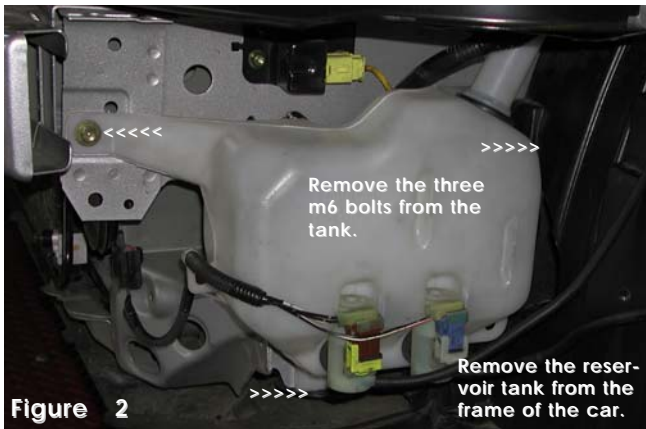

Figure 2
3. **Removing the windshield washer reservoir-** (A and B) Unplug the connector clip and tube from the front washer motor and the rear washer motor. (C) Unbolt the three m6 bolts holding the reservoir tank to the frame. (See Diagram 2) and (Figure 2)